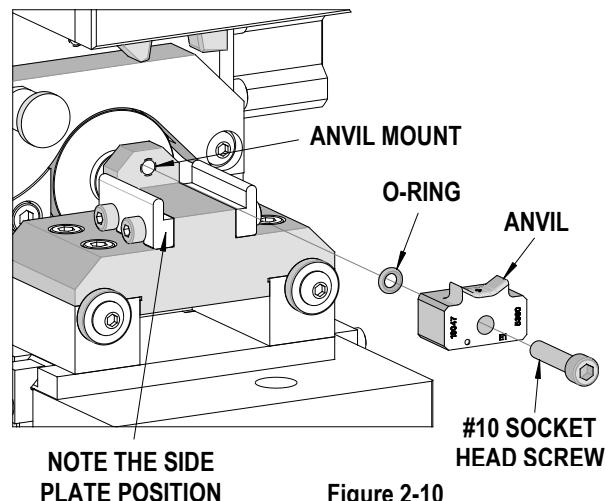

Figure 2-10
3. To remove the anvils, use a 5/32" hex wrench to remove the #10 socket head screw holding the anvils to the anvil mount. See Figure 2-10.